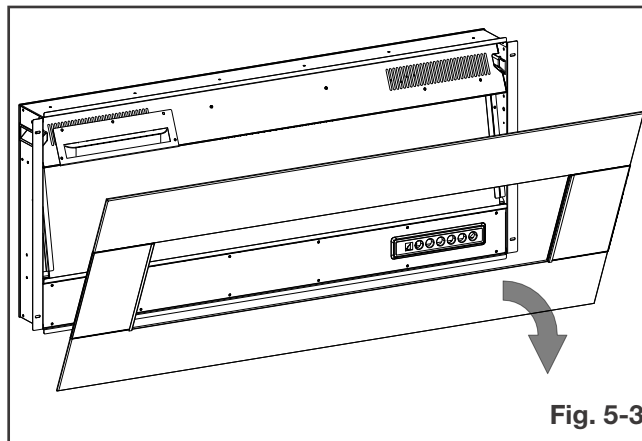

Fig. 5-3
- Place the front surround face-down on a soft, non-abrasive surface (Fig. 5-3).